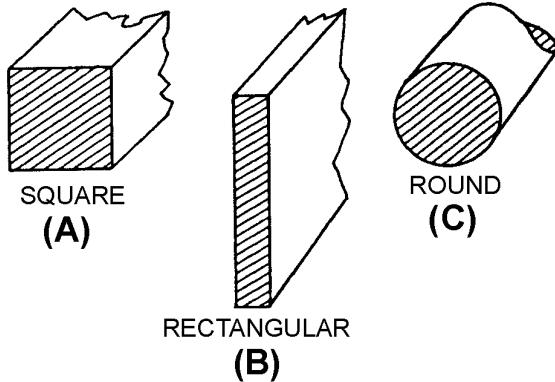

Figure 1-1.—Cross-sectional areas of conductors.
The square mil is a unit of measurement used to determine the cross-sectional area of a square or rectangular conductor (views A and B of figure 1-1). A square mil is defined as the area of a square, the sides of which are each 1 mil. To obtain the cross-sectional area of a square conductor, multiply the dimension of any side of the square by itself. For example, assume that you have a square conductor with a side dimension of 3 mils. Multiply 3 mils by itself ( $3 \text{ mils} \times 3 \text{ mils}$ ). This gives you a cross-sectional area of 9 square mils.
The circular mil is the standard unit of measurement of a round wire cross-sectional area (view C of figure 1-1). This unit of measurement is found in American and English wire tables. The diameter of a round conductor (wire) used to conduct electricity may be only a fraction of an inch. Therefore, it is convenient to express this diameter in mils to avoid using decimals. For example, the diameter of a wire is expressed as 25 mils instead of 0.025 inch. A circular mil is the area of a circle having a diameter of 1 mil, as shown in view B of figure 1-2. The area in circular mils of a round conductor is obtained by squaring the diameter, measured in mils. Thus, a wire having a diameter of 25 mils has an area of  $25^2$ , or 625 circular mils. To determine the number of square mils in the same conductor, apply the conventional formula for determining the area of a circle ( $A = \pi r^2$ ). In this formula, A (area) is the unknown and is equal to the cross-sectional area in square mils,  $\pi$  is the constant 3.14, and r is the radius of the circle, or half the diameter (D). Through substitution,  $A = 3.14$ , and  $(12.5)^2$ ; therefore,  $3.14 \times 156.25 = 490.625$